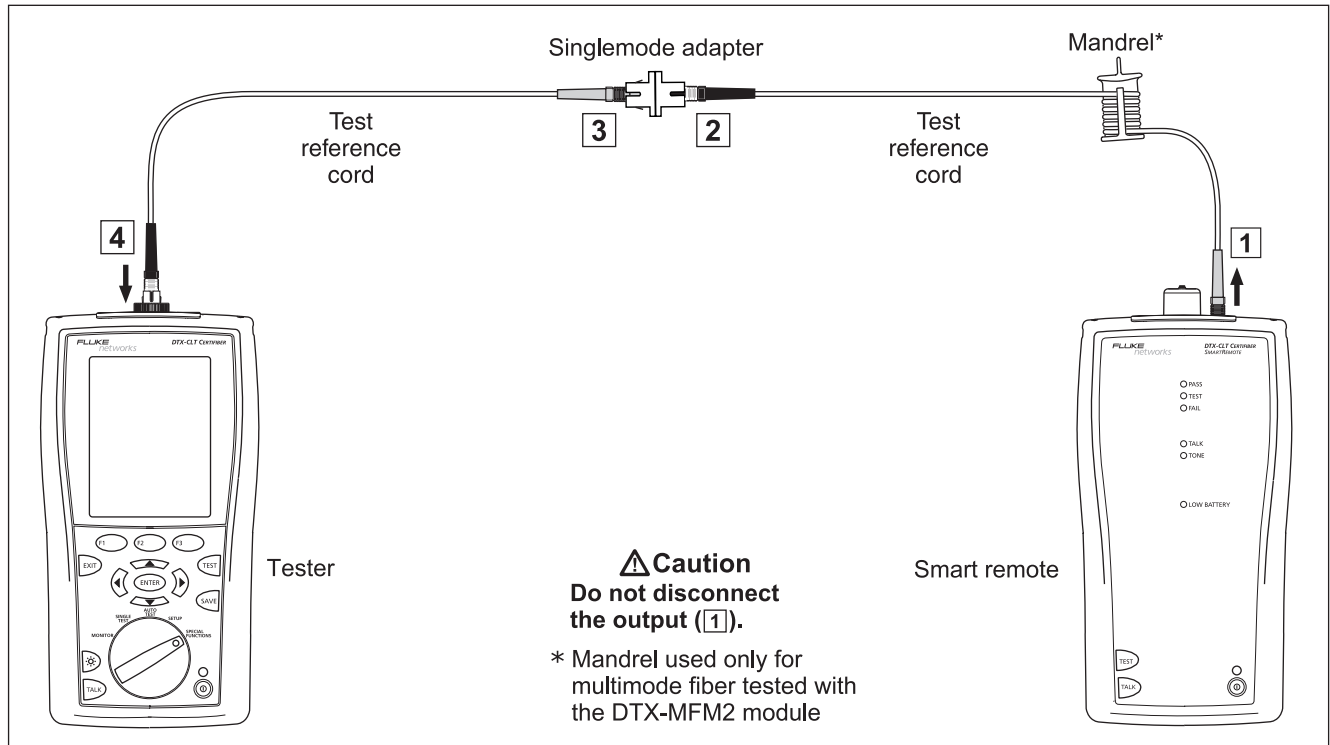

Figure 22. Testing the Test Reference Cords in Far End Source Mode
- 7 Make the connections shown in Figure 22.